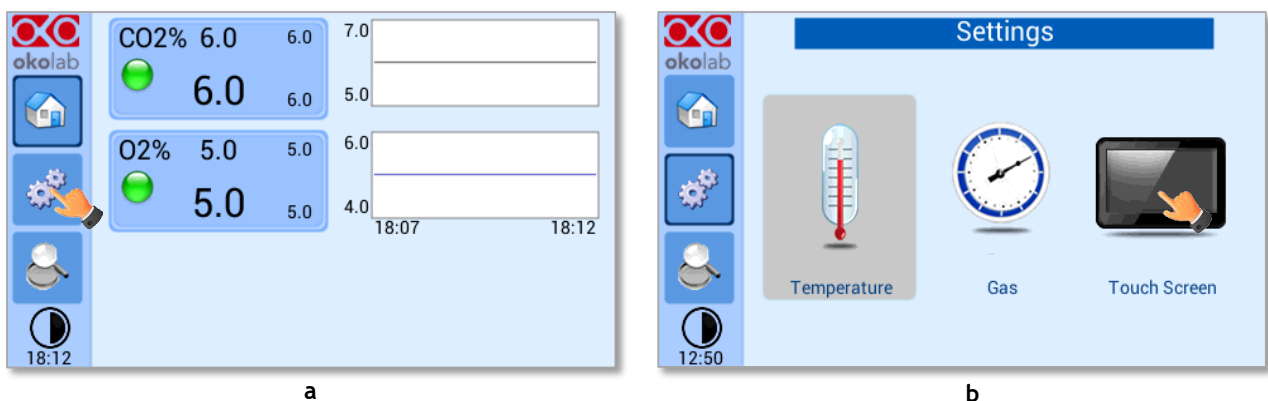

Figure 69 (a) How to enter the setting menu; (b) how to enter the Touch Screen menu.
1. Press on *Settings* icon  (see Figure 69 a) and press on *Touch screen* icon  on the window that opens next (see Figure 69 b).